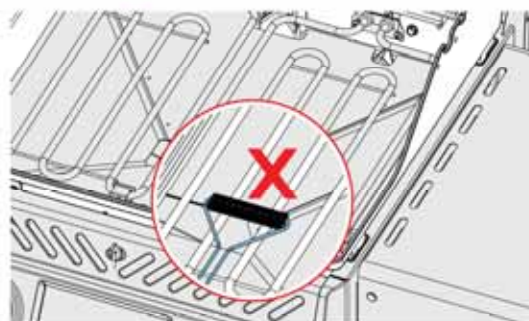

Fig. 5
**Important!** Do not use any type of brush to clean the electric burners. The bristles could damage the electric burners. Refer to **Clean** mode to burn off any debris on the electric burners. (Fig. 5)